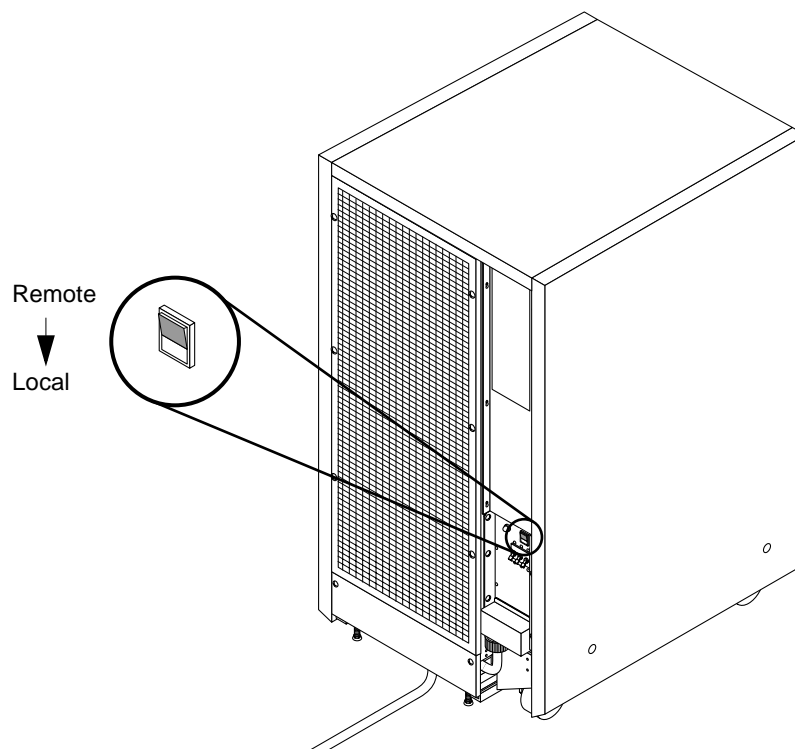

Figure 2-20 Local/Remote Switch Location
2. **Turn the Local/Remote switch down, to Local. See Figure 2-20.**